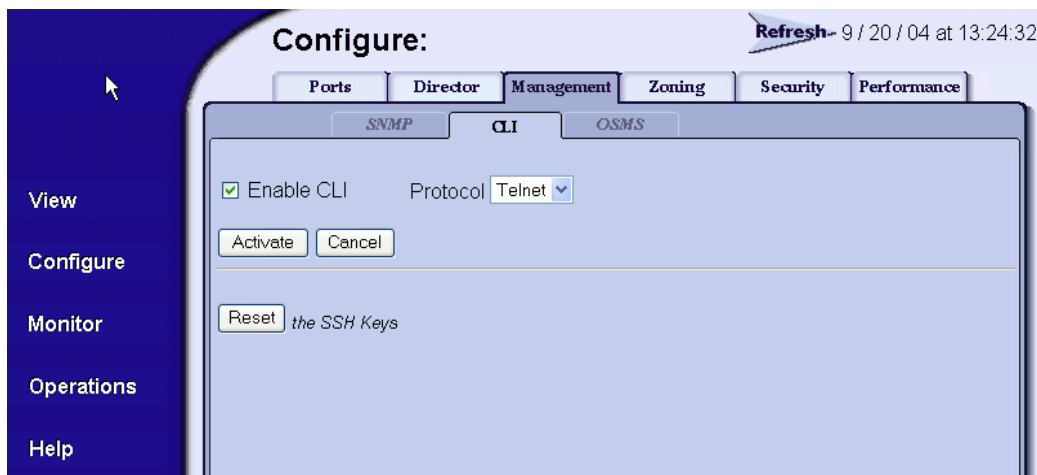

Figure 2-13 Configure Panel (Management Page with CLI Tab)
1. At the *Configure* panel, click the *CLI* tab. The *Management* page displays with the *CLI* tab selected (Figure 2-13).